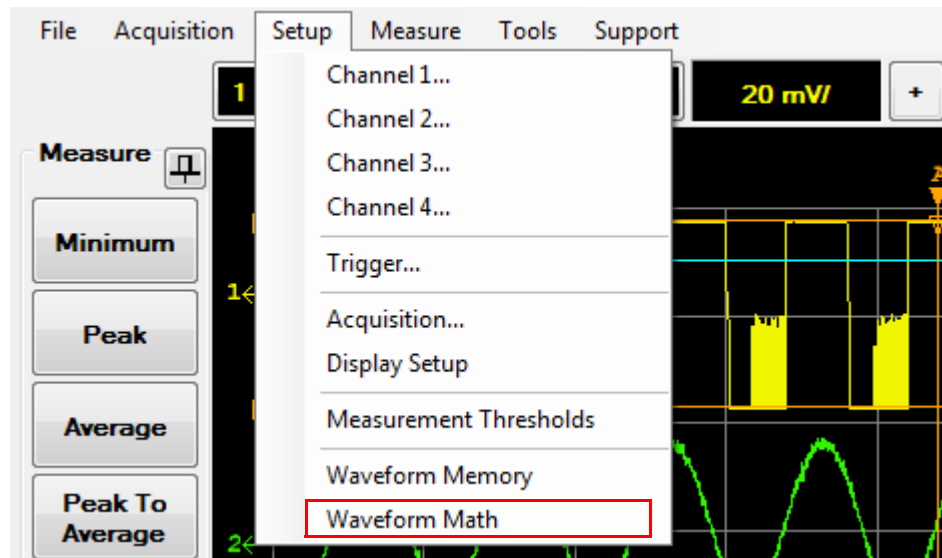

Figure 2-53 Waveform Math selection in the Setup menu
- 1 Select **Setup > Waveform Math** on the toolbar as shown in Figure 2-53.